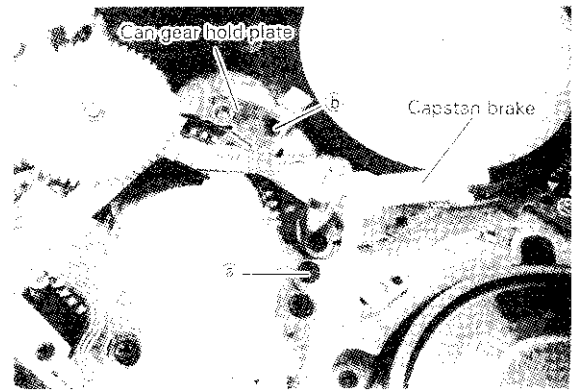

Fig. 3-7-1
- (1) Remove the cassette housing. (See 4-1)
- (2) Take off the PCB MDA. (See 4-3)
- (3) Take off the SYNC belt. (See 4-6)
- (4) Remove the fixing screw ② (Fig. 3-7-1) and take off the capstan brake.
- (5) Remove the fixing screw ① (Fig. 3-7-1) and take off the cam gear hold plate.
- (2) Mount the cam gear hold plate onto the main plate so that the positioning pins coincide with the positioning holes on the main plate, then fix with the fixing screw ⑥ (Fig. 3-7-1).
- (3) Mount the capstan brake so that the positioning pins coincide with the positioning holes on the main plate, then fix with the fixing screw ② (Fig. 3-7-1).
- (4) Attach the SYNC belt.
- (5) Attach the PCB MDA.
- (6) Attach the cassette housing.